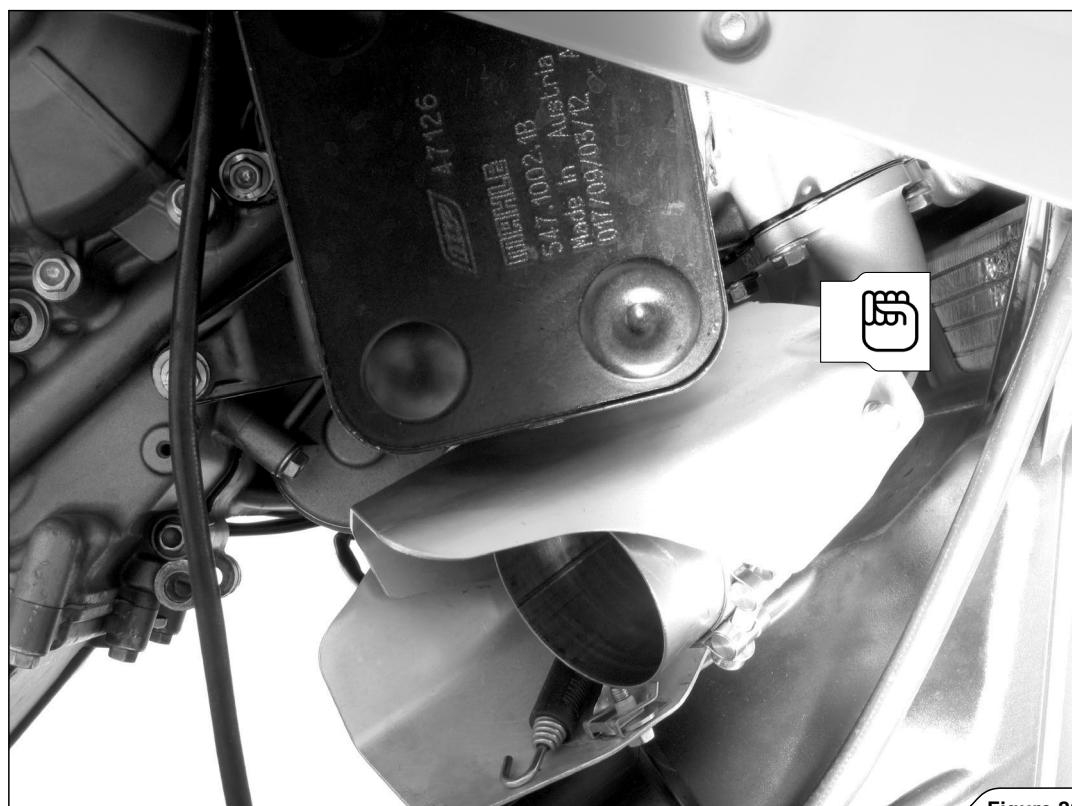

Figure 26
- Hand tighten the front header onto the cylinder head, using stock nuts (Figure 26).